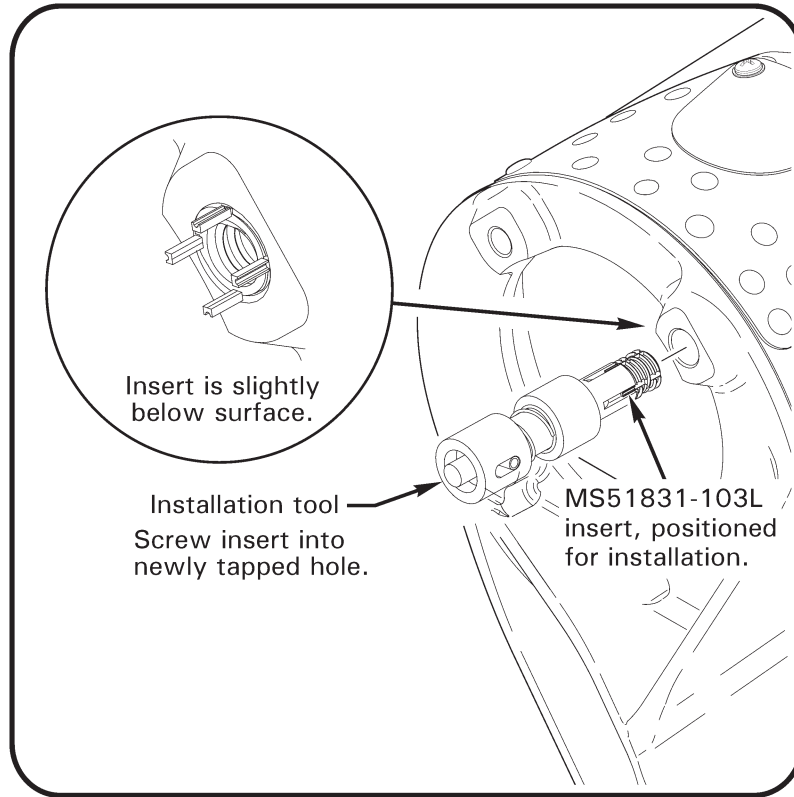

FIGURE 3 Insert installation
6. Refer to Figure 3. Place MS51831-103L insert onto installation tool with locking keys in grooves of installation tool. Screw insert into newly-tapped hole until keys contact bulkhead. Remove installation tool.